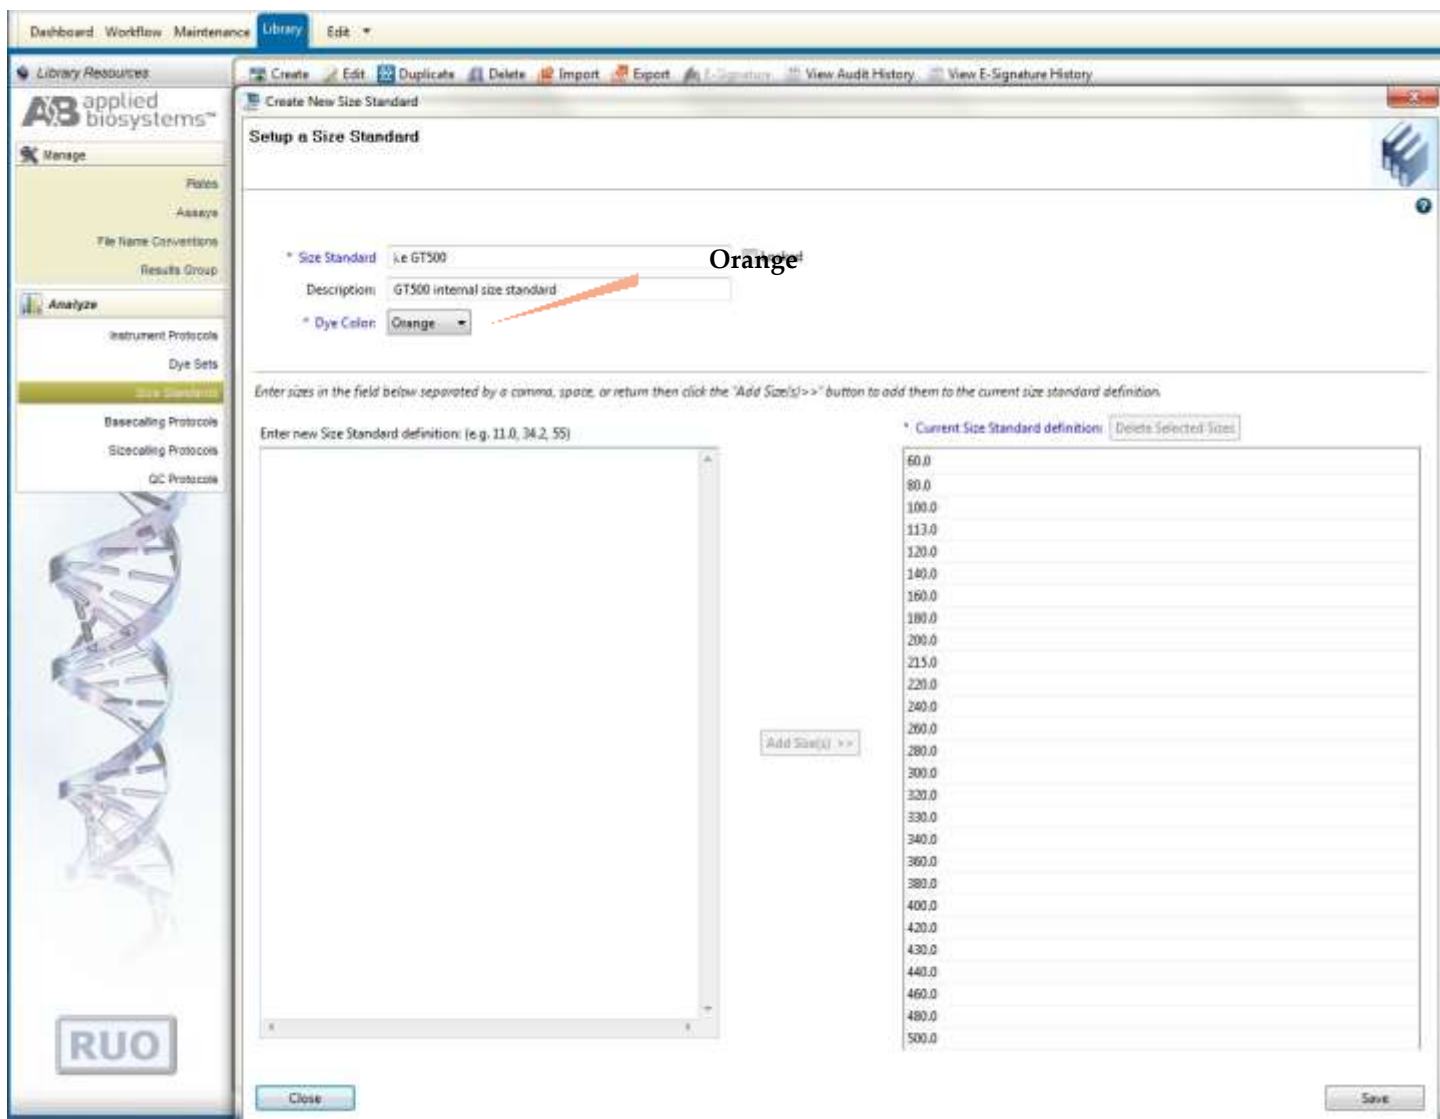

Figure 5. Screenshot for the “Create New Size Standard” window on Applied Biosystems 3500 Data Collection software.
- c) Select “Create” (Figure 5)